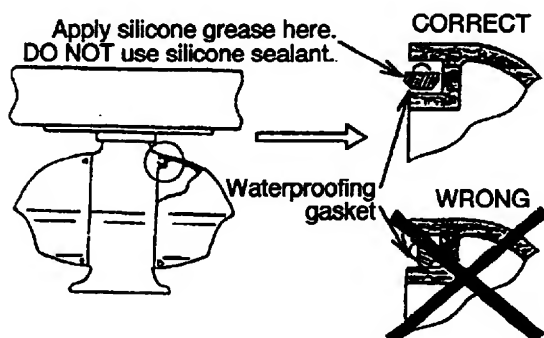

Figure 15 Seating of waterproofing gasket
- 15) Confirm that the waterproofing gasket is seated as shown in Figure 15.